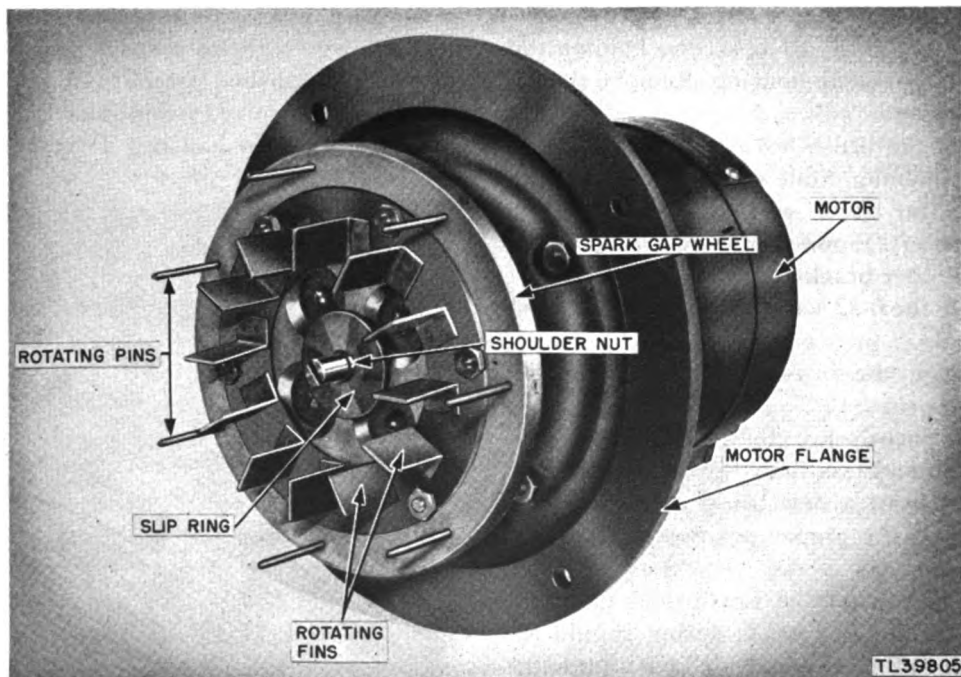

Figure 173. Rotary spark gap disassembled, showing rotating pins and slip ring.
(1) Tag for replacement and remove connections from spark gap drive motor.
(2) Remove the  $\frac{1}{4}$ -20 hex-head machine screws from motor flange.
(3) Carefully withdraw motor and wheel assembly (fig. 173) from spark gap housing. This can be accomplished without removing the chassis if the motor is moved straight back until the flange fit clears pilot on housing. It may be necessary
(4) Remove shoulder nut at center of slip ring (fig. 173).
(5) Remove slip ring from stud. It may be necessary to pry the ring off with a screwdriver.
(6) Install new slip ring making sure that flat sides of slip ring hole register properly with flats on stud. Do not drive slip ring on if it is a tight fit as this may loosen the stud and necessitate complete disassembly of wheel and possible loss of concentricity of pins. Draw slip ring down flat on the rotor face by means of the shoulder nut. Be sure the slip ring is drawn down flat, and that it will run true.
(7) Carefully insert wheel into housing and fit motor flange to housing with terminal block in its original position. Avoid damage to pins.
(8) Replace motor flange bolts and motor connections. Be sure connections are made to T1 and T2.
(9) Adjust spark gap spacing as described in paragraph 87, Adjustment of Spark Gap.
(10) Run the spark gap motor without firing the gap for at least a half hour to permit brushes to seat to the new ring.